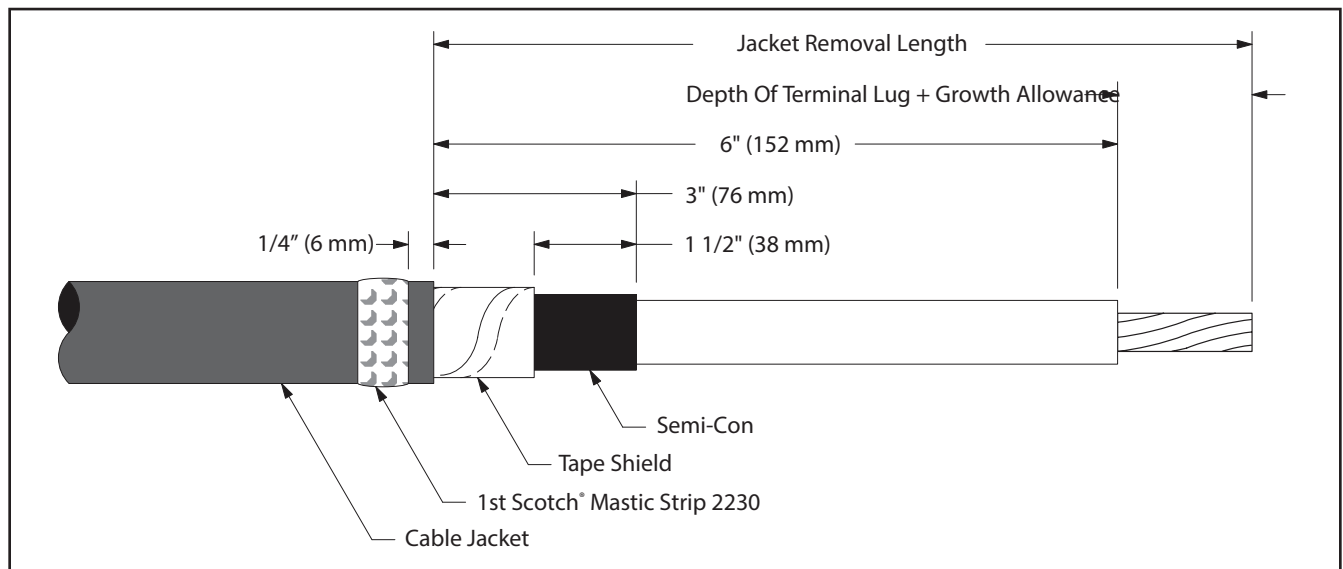

Figure 1
- 2.2 Prepare cable using dimensions shown in *Figure 1*. **BE SURE TO ALLOW FOR DEPTH OF TERMINAL LUG.** If necessary to prevent tape shield from unrolling, hold down edge with a single wrap of 3M™ EMI Copper Foil Shielding Tape 1181.
- 2.3 Select a Scotch® Mastic Strip 2230 from kit and remove white release liners. Using light tension, apply a **SINGLE WRAP** of mastic around the cable jacket 1/4" (6 mm) from cut edge (*Figure 1*). Cut off excess.